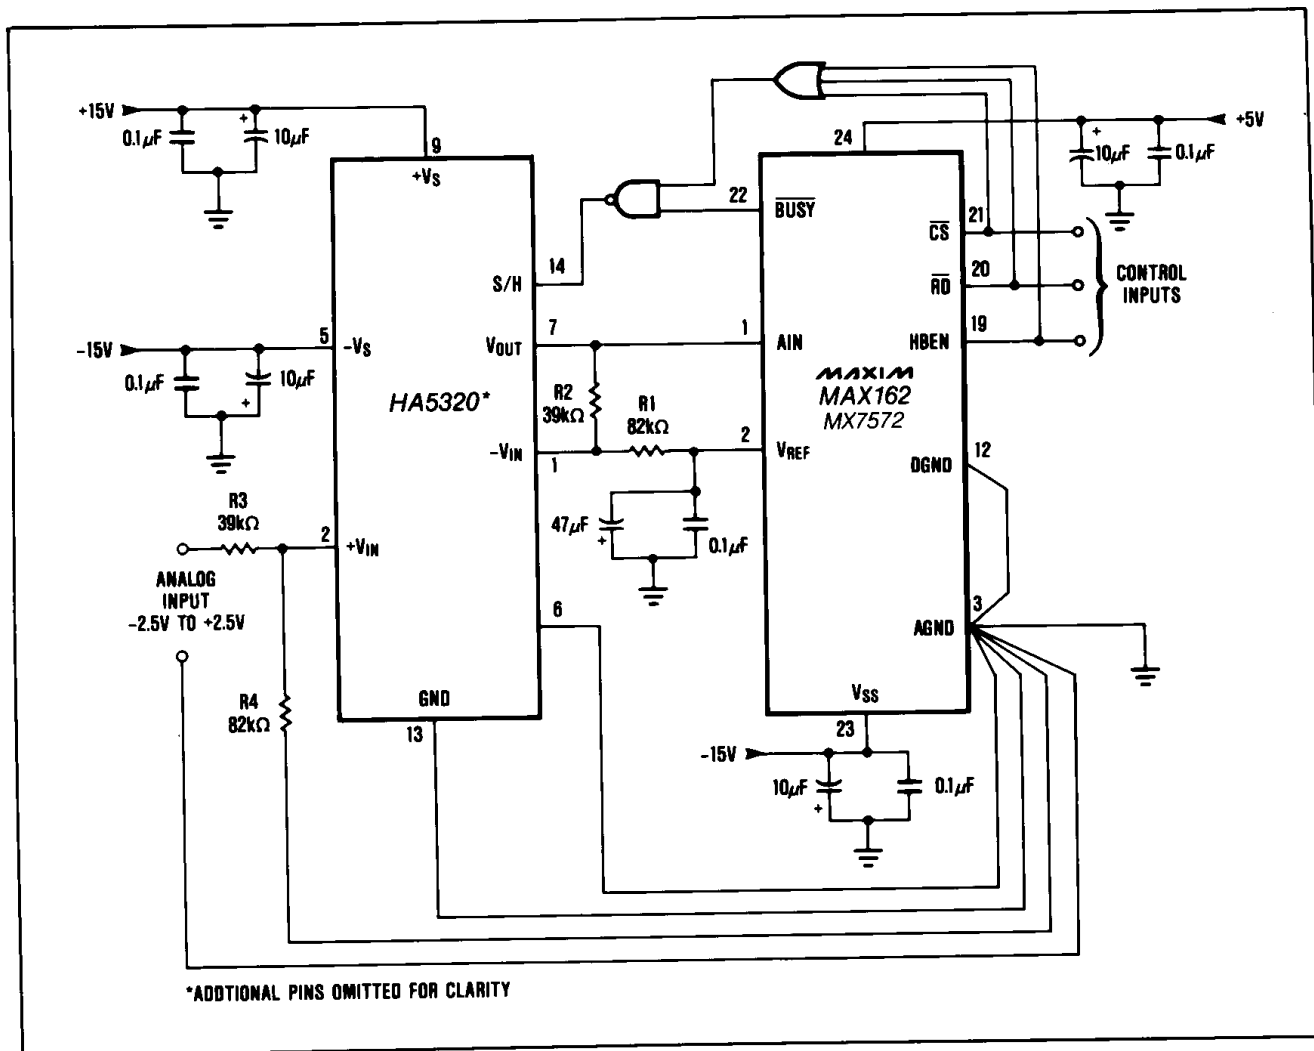

Figure 16. MAX162/MX7572—HA5320 Sample-and-Hold Interface
**MAX162** Figure 16 shows the MAX162 to HA5320 interface. The maximum sampling rate is 210kHz with a 4MHz clock which allows for a 1.5μs acquisition time. The HA5320 can also be replaced by a HA5330 for higher throughput.